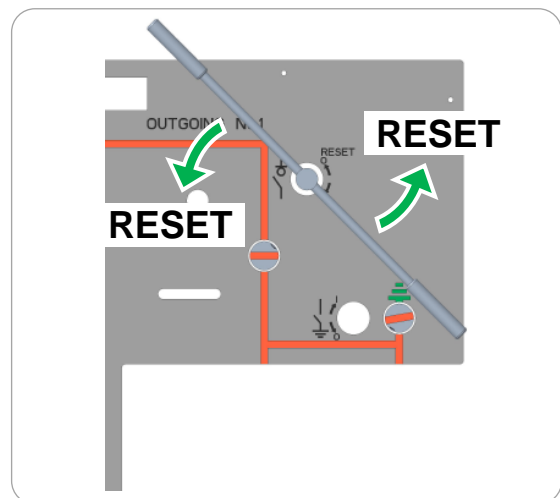

Figure 13. RESET operation
- ① Replace fuses and reset the strikers. For details of replacing fuses, refer the clause 11.1.
- ② Operate LBS to reset. [Figure 13]
- ③ The status remains as OFF/OPEN state.
- ④ After these reset operation, LBS can be normally operated following CLOSE operation.